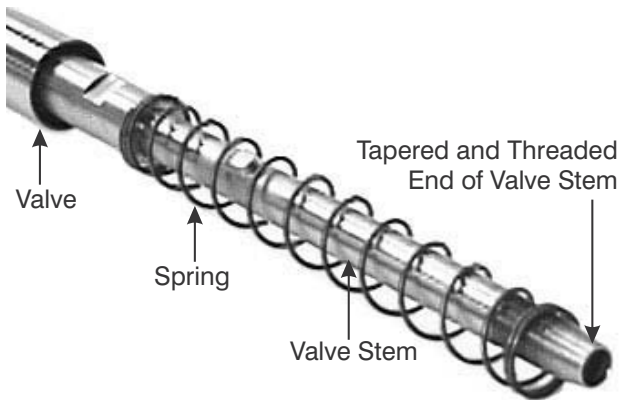

Figure 9-16. Slide Spring onto Valve Stem.
1. To prevent it from moving during assembly, fasten the End Cap (9) securely in a vise or saddle clamp.
2. Slide the Spring (6) onto the tapered and threaded end of the Valve Stem (5) as shown in Figure 9-16.